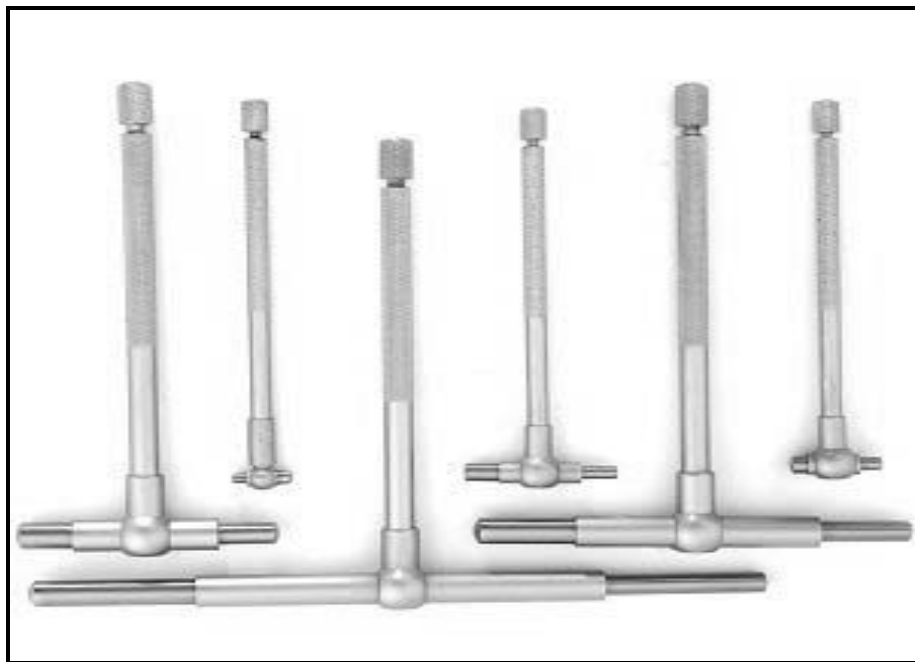

FIGURE 6.1
- 6.1.1 Identify the precision tool indicated in FIGURE 6.1 above. (1)
- 6.1.3 The tool in FIGURE 6.1 is not calibrated. How can you determine measurements while using it? (1)